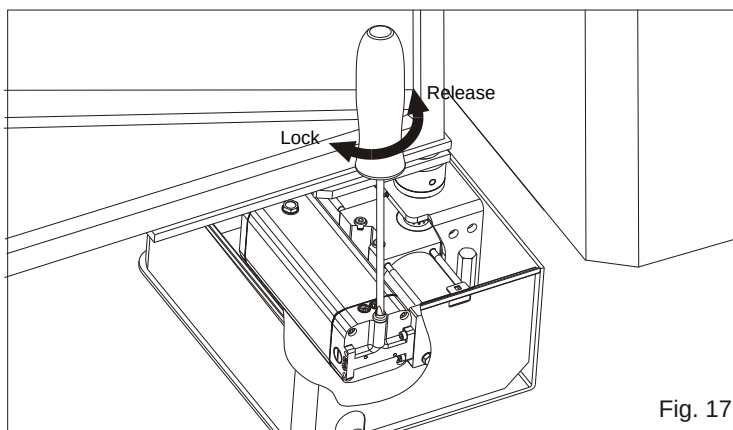

Fig. 17
-Turn the release screw with the screwdriver about 180° ca. in anti-clockwise direction (Fig. 17).